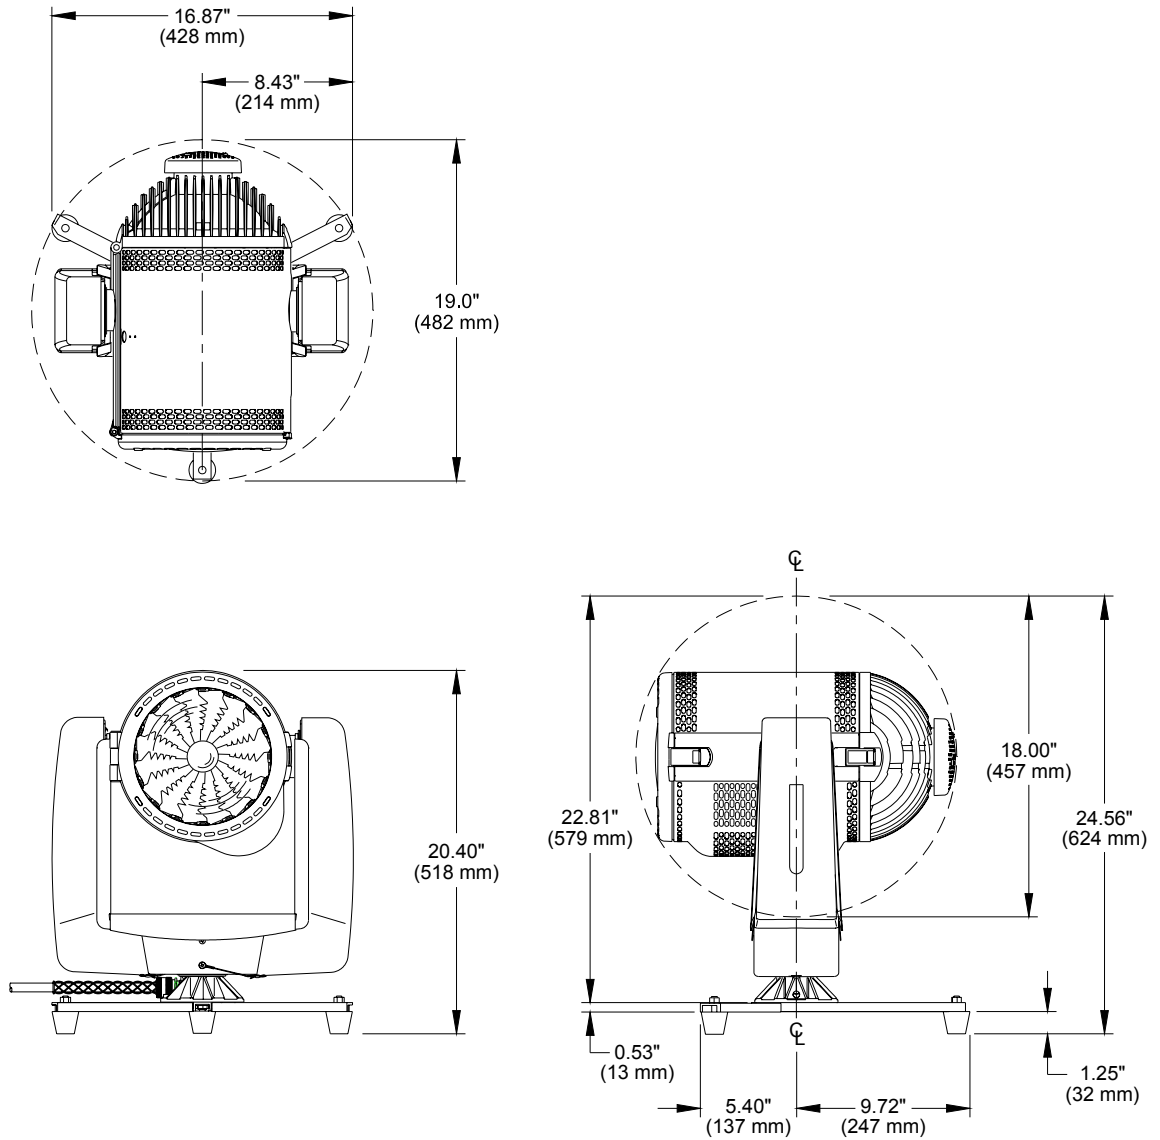

Figure 2-6: Floor Mounting Clearances
- Step 4. Place luminaire in desired floor position. Refer to clearances in **Figure 2-6**.